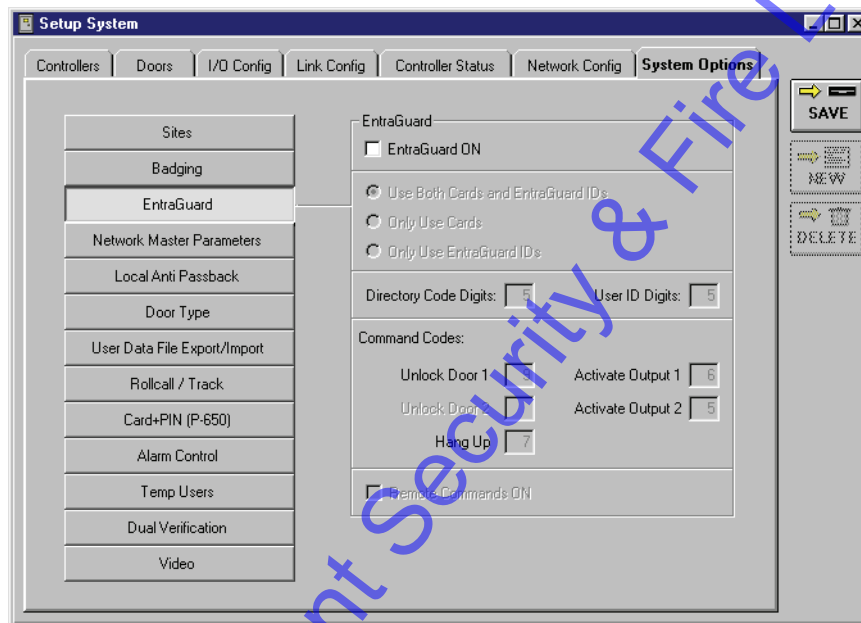

Figure 2-6: EntraGuard Entry Field
1. From the System Options tab, click on the  button. The System Options window will reveal the EntraGuard field where options concerning use of an EntraGuard controller may be set (see Figure 2-6).
2. If your system is not using an EntraGuard controller, verify there is **not** a check mark in the EntraGuard ON box (see Figure 2-6).